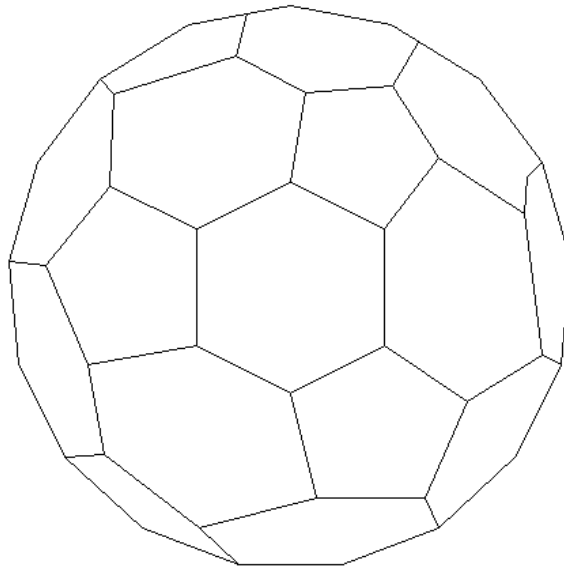

Figure 9.17
2. Full assembly of this net pattern will result in one-half of the construction. Repeat the process to complete the other half. Uniting the two halves will take some dexterity, but can be done by taping one common edge at a time. The finished product is shown in **Figure 9.17**.